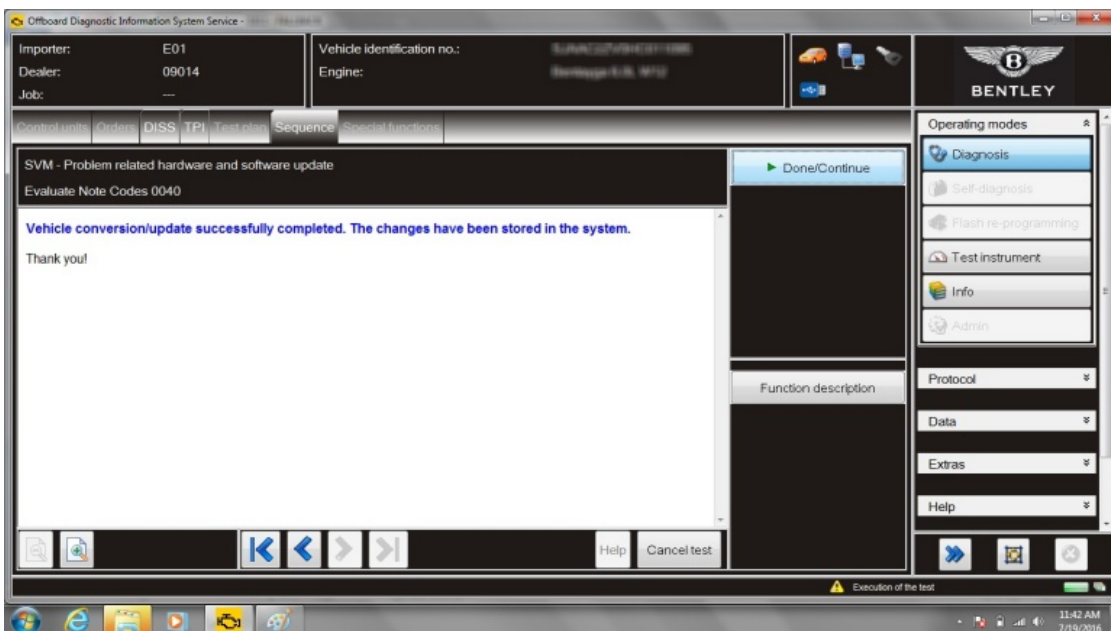

Figure 5
17. Select Done/Continue at successfully complete to finalise the update (see Figure 5)